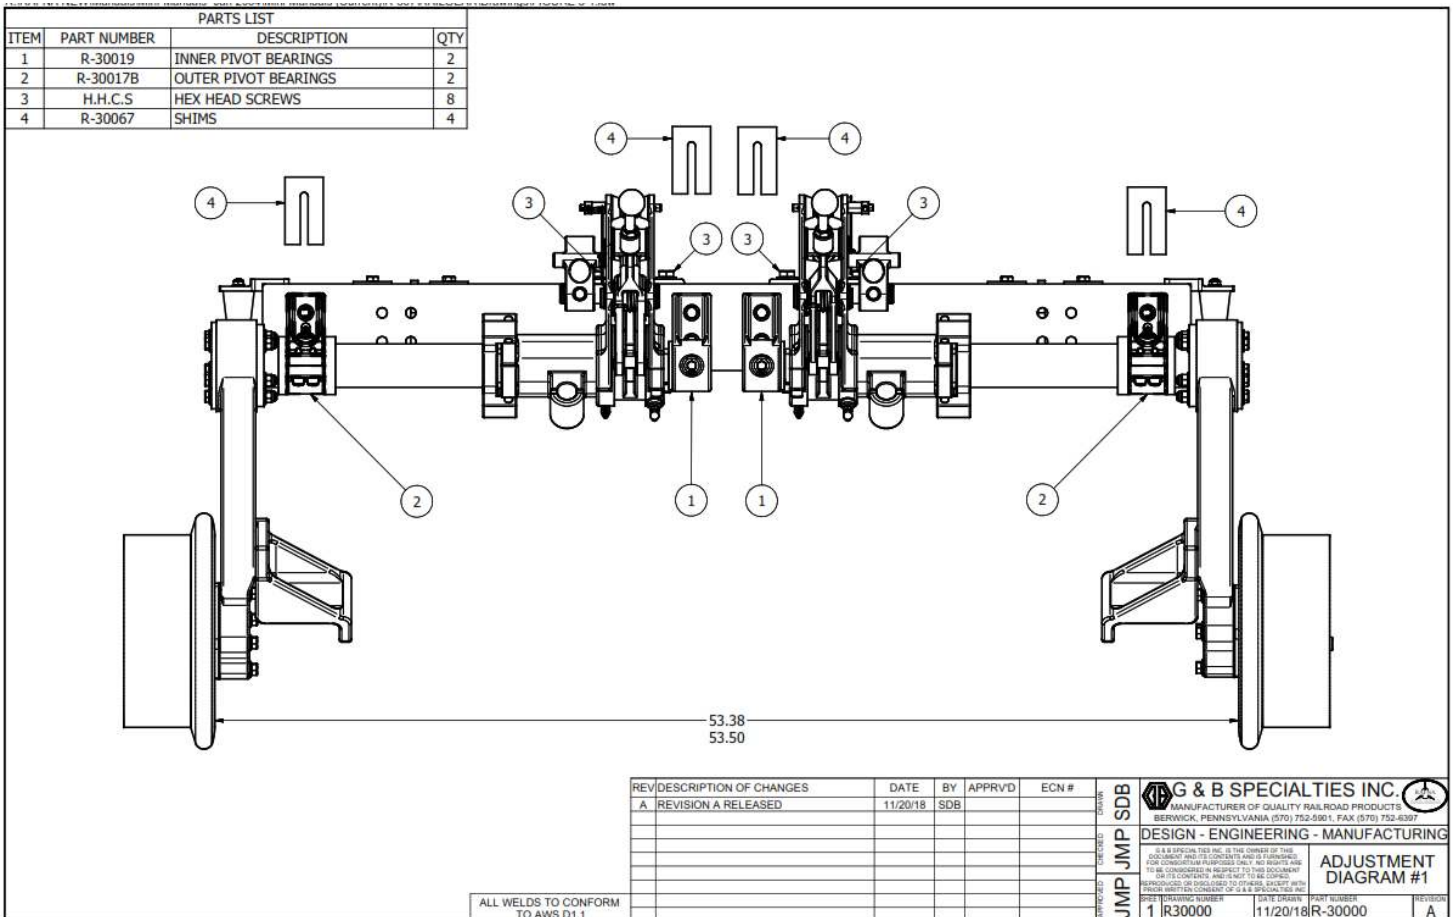

Figure 3-8: Guide Wheel Unit
8. See Figure 3-8. If the vehicle pulls noticeable to the right when traveling forward, add a shim (5) (part no. 101818) behind the right front outer bearing. Do not use more than two shims on any pivot bearing during the original application of the guide wheel units or three shims on any pivot bearing during field inspection and adjustment.
9. If the vehicle pulls noticeable to the left when traveling forward, add a shim (5) (part no. 101818) behind the left front outer bearing. Do not use more than two shims on any pivot bearing during the original application of the guide wheel units or three shims on any pivot bearing during field inspection and adjustment.